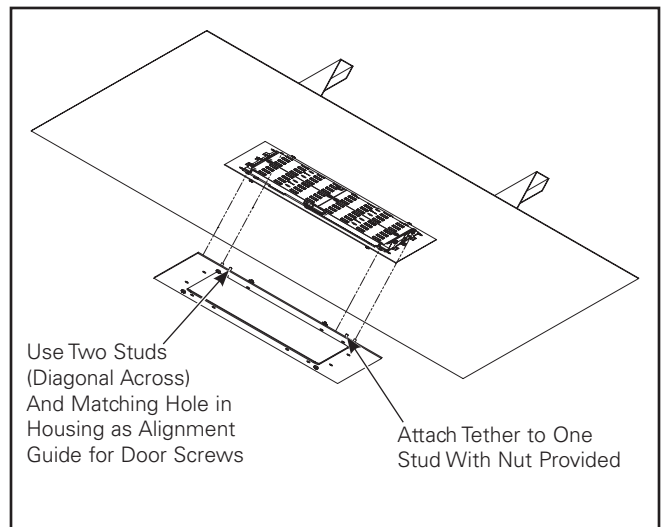

Figure 6.
- Attach the tether to the door by unscrewing nut from the door, placing the tether onto the stud and tighten the nut back on (Figure 6).
- Screw the door into the fixture while making sure the tether does not get caught up in gasket and tighten four door screws (use two diagonal studs as guide to locate door screws Figure 6). Ensure screws are tightened all the way (torque 15 in. lb.).